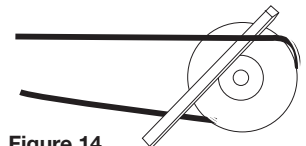

Figure 14
4. Always loosen tension enough to install belts without stretching. Do not force belt(s) see Figure 14. Forcing belts will break the cords and cause belt failure.